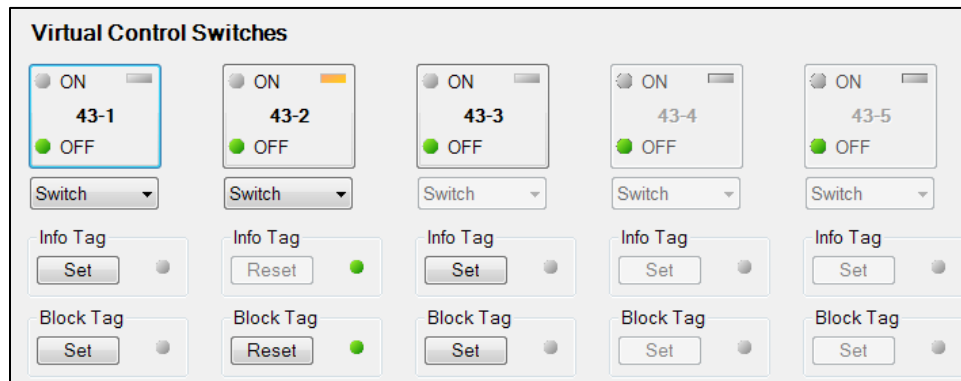

Figure 302. BESTCOMSPPlus Virtual Switches Control Screen
Step 4: Use the Metering Explorer of BESTCOMSPlus to open the Control, Virtual Switches tree branch (Figure 302). Using select-before-operate, perform the following steps to control a virtual switch.
- Step 3: Use the Metering Explorer of BESTCOMSP_{Plus} to open the Control, Virtual Switches tree branch (Figure 302). Using select-before-operate, perform the following steps to control a virtual switch.